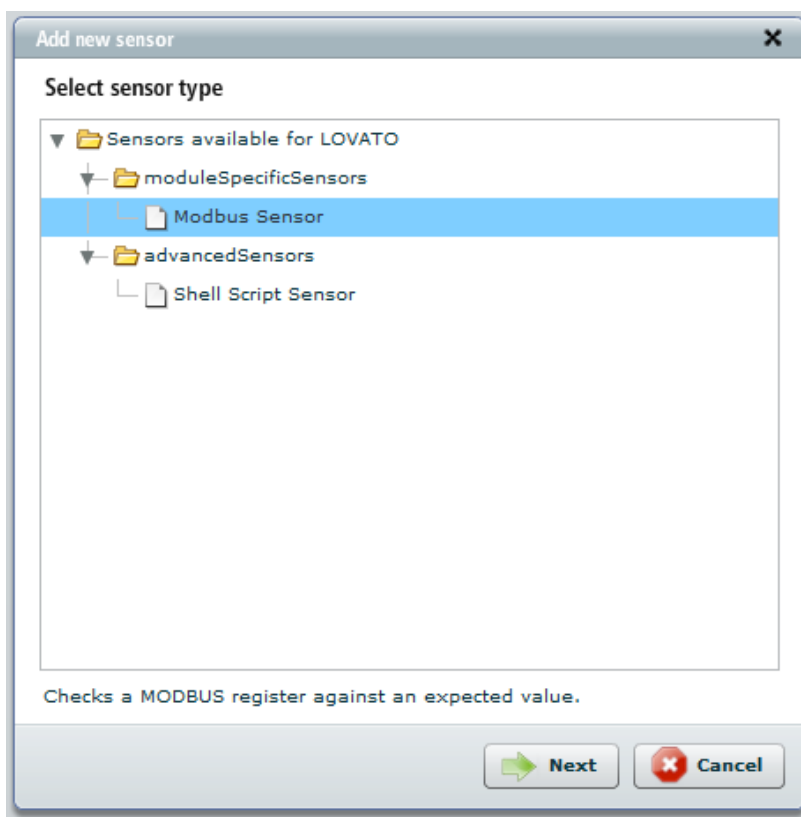

Figure 5: Adding a sensor to MODBUS device
5. The wizard dialog is displayed (see Figure 5).